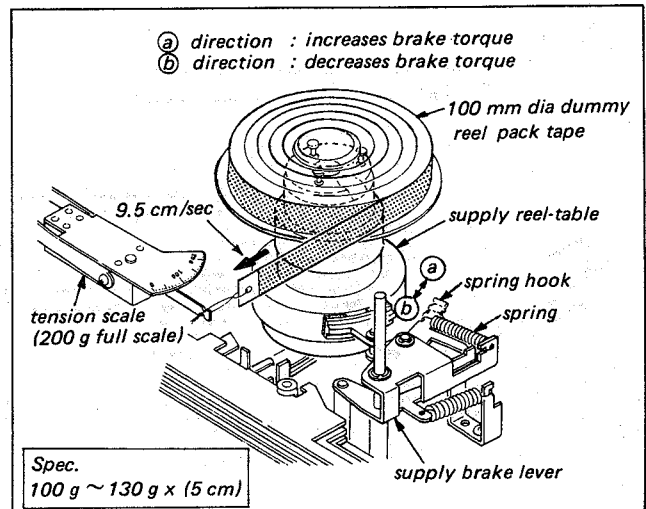

Fig. 4-17. Supply reel-table brake torque adj. (EJECT mode)
3. Install a 100 mm diameter dummy reel pack tape (Jig Ref. No. J-7) on the Supply Reel-Table as shown in Fig. 4-17.
4. Hook a tension scale (200 g full scale) (Jig Ref. No. J-17) on an end of the dummy reel pack tape. Pull out the tape at the constant speed of approx. 9.5 cm/sec in the direction shown in Fig. 4-17. Scale reading should be 100 g ~ 130 g (x 5 cm).